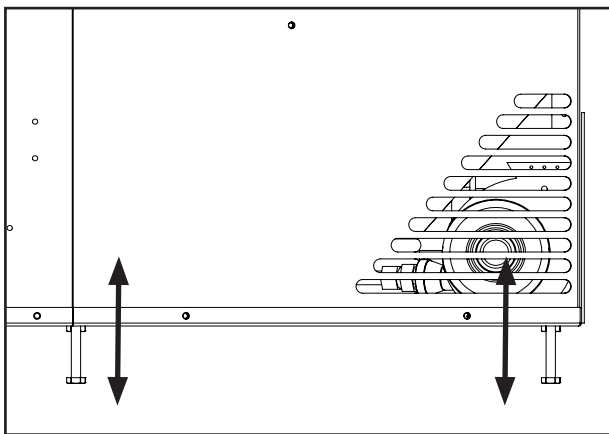

Figure 51: Levelling Legs Position.
15. Adjust the levelling legs to ensure the unit is level and high enough if a base shelf and/or riser is to be installed. There are four levelling legs on the bottom of the unit (shown in Figure 51).